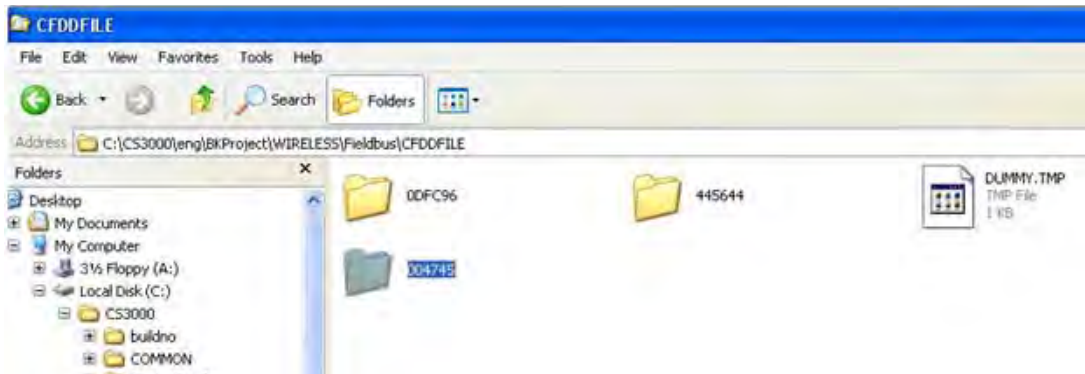

Figure 71 Example of the BHGE DD/CFF Files Location
3. Copy the path and paste it in *Windows Explorer*. The 004745 folder contains the DD/CFF files for all BHGE devices (Figure 71).